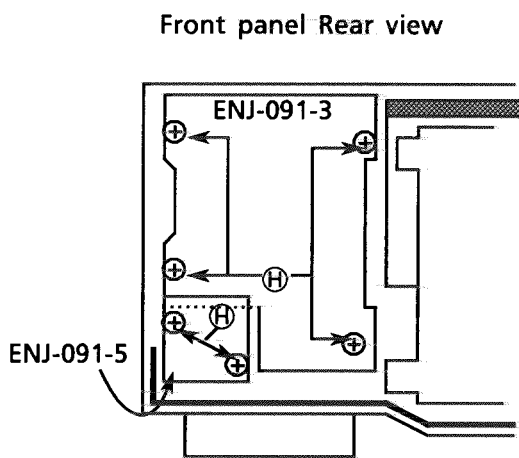

Fig.8 Rear view
4. Remove the 6 screw (H). (Fig.8)